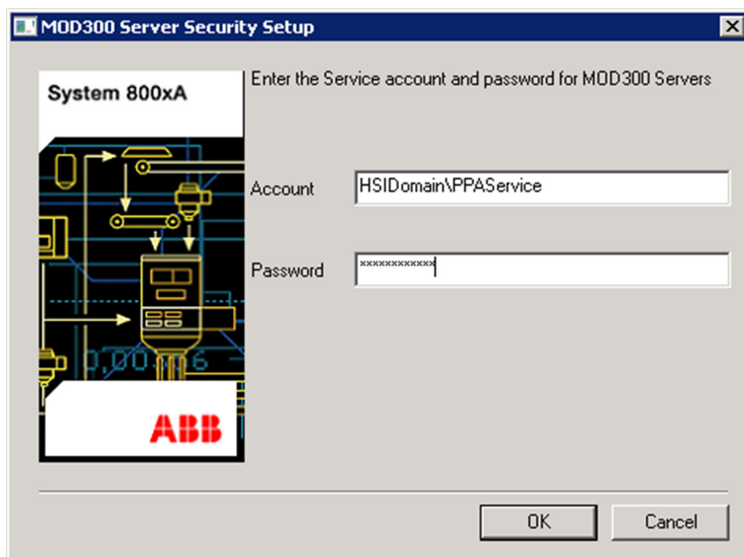

Figure 43. Security Login
4. The MOD 300 Server Security Setup dialog box appears. Enter the domain\user name and password of the 800xA Service User when requested, as shown in Figure 43 (password is case sensitive) and Select OK. Some registering occurs before the next step.